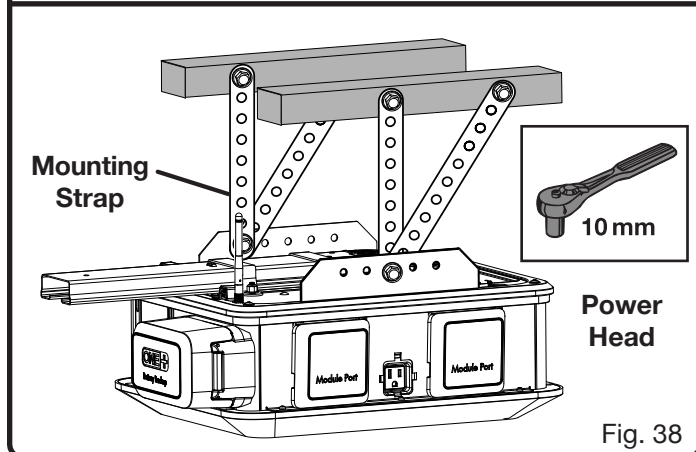

Fig. 38
- Connect straps to garage door opener and to the joists using bolts, washers, and nuts (see figure 38). Tighten bolts and nuts with a 10 mm socket.